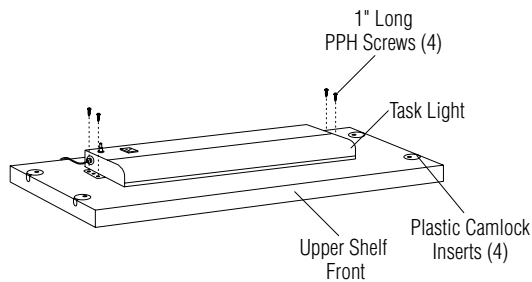

Figure 2
9. For upper shelf without task light – Insert two camlock studs in each end and/or adder panel. Insert four plastic camlock inserts into each upper shelf. Set shelf onto upper shelf camlock studs. Tighten (Figure 2).
10. For upper shelf with optional task light – Insert two camlock studs in each end and/or adder panel. Insert four plastic camlock inserts into each upper shelf (Figure 2). Position the upper shelf on flat surface with the faceplate facing up and toward the front. Center the task light on the